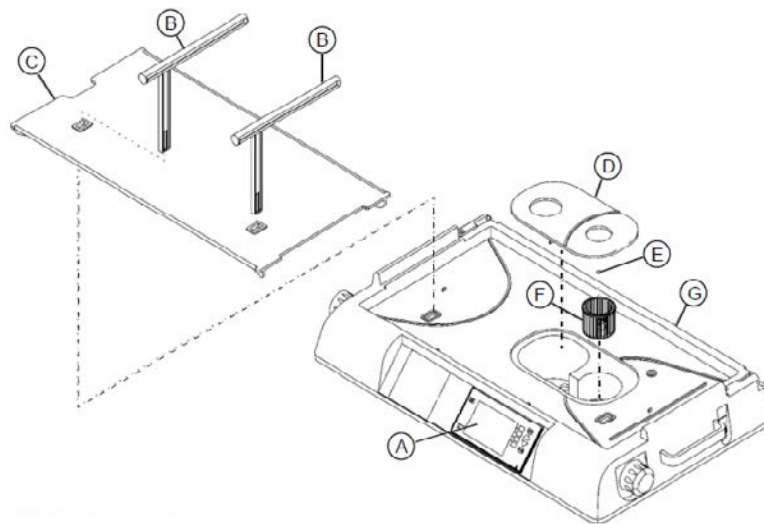

Fig. 44 Impeller Assembly
- 11 Pull the two mattress tilt bars (Fig. 44/B) up through the main deck (Fig. 44/C), and remove them from the unit.
- 12 Remove the main deck (Fig. 44/C) from the unit.
- 13 Remove the heater/impeller cover (Fig. 44/D) from the unit.
- 14 Using pliers, remove the wire hose clamp (Fig. 44/E) (if present) that secures the impeller assembly (Fig. 44/F) to the upper shell assembly (Fig. 44/G).
- 15 Remove the impeller assembly (Fig. 44/F) from the upper shell assembly (Fig. 44/G).